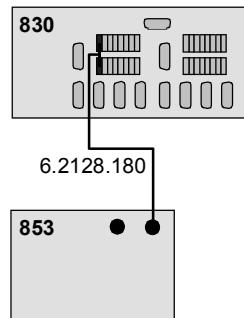

Figure 4: Connection between the 853 CO₂ Suppressor and 830 IC Interface
- The value for the Event line used to control the 853 CO₂ Suppressor must be set to 1. In the example shown above this is Event Line 1, see *Figure 4*.